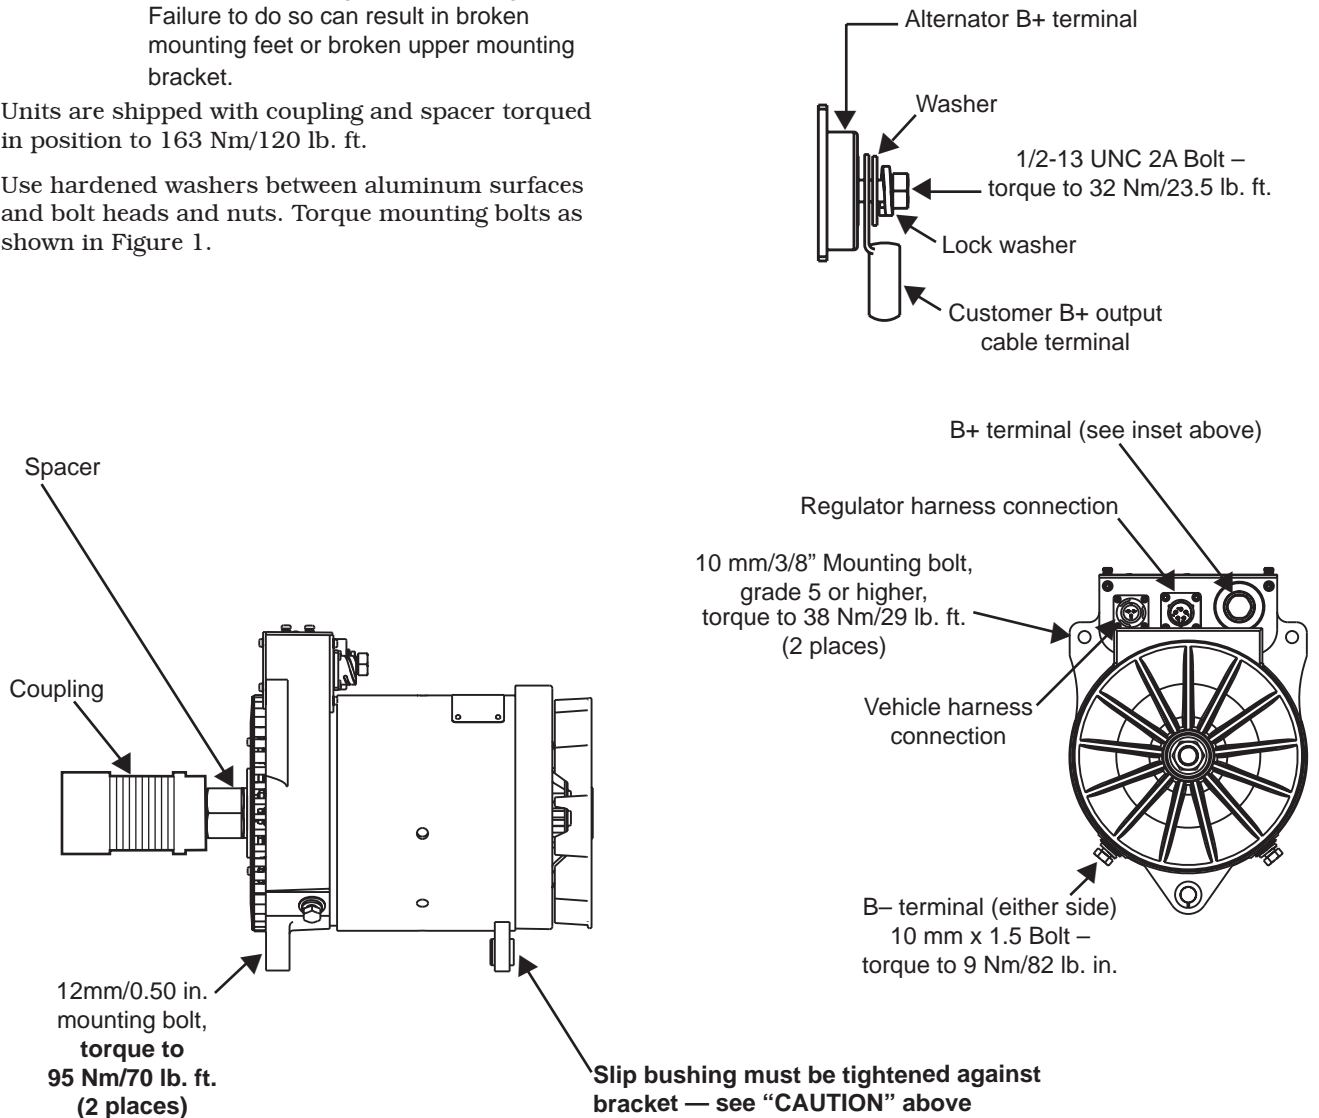

Figure 1 — N1385-2 Alternator Installation Details
Install alternator as shown in Figure 1:
2. Use hardened washers between aluminum surfaces and bolt heads and nuts. Torque mounting bolts as shown in Figure 1.